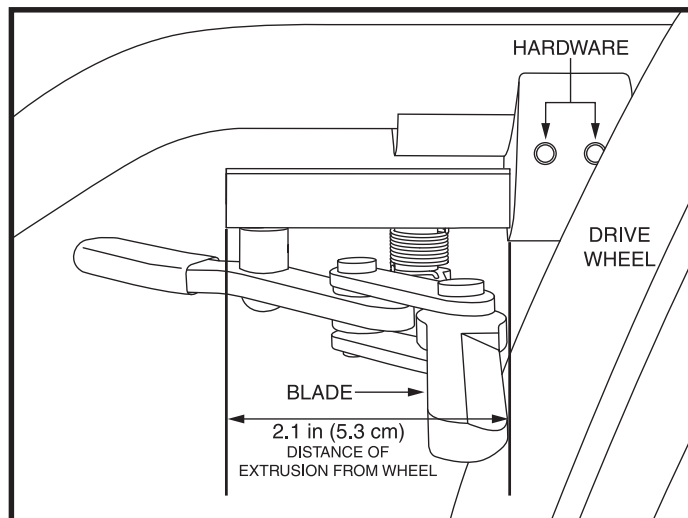

Figure 46. Scissor-style Wheel Lock Adjustment
1. Disengage the wheel lock. The front of the wheel lock extrusion that faces the caster wheels should be exactly 2.1 in. (5.3 cm) from where the wheel lock blade makes contact with the plane of the drive wheel. See figure 46. This applies to both solid and pneumatic tires.
2. Loosen the hardware that fastens the wheel lock to the frame. See figure 46.